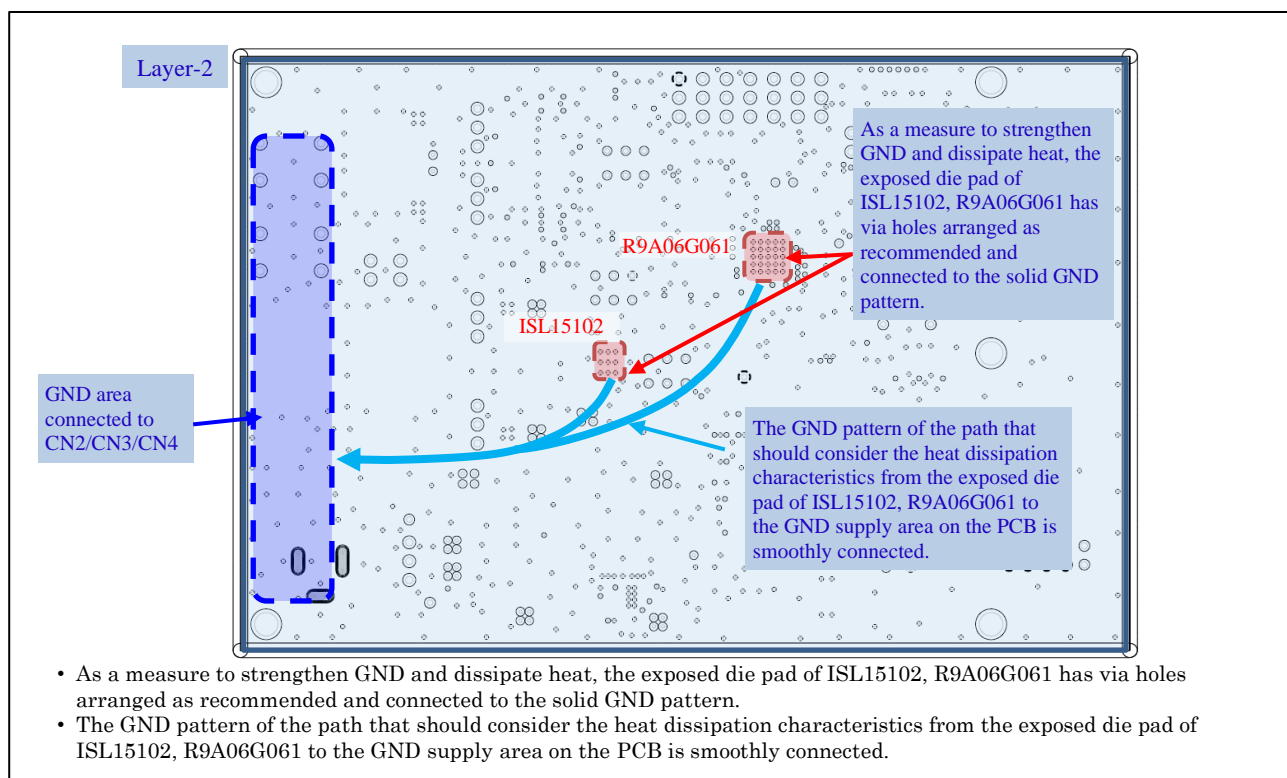

Figure 5-3 Example of connection between exposed die pad of R9A06G061 and ISL15102 and GND pattern (2nd Layer)
- In the GND layer of the 2nd layer, connect the path to the GND supply terminal on the PCB smoothly with the Exposed die pad of R9A06G061 and ISL15102. (An example is shown in Figure 5-3.)